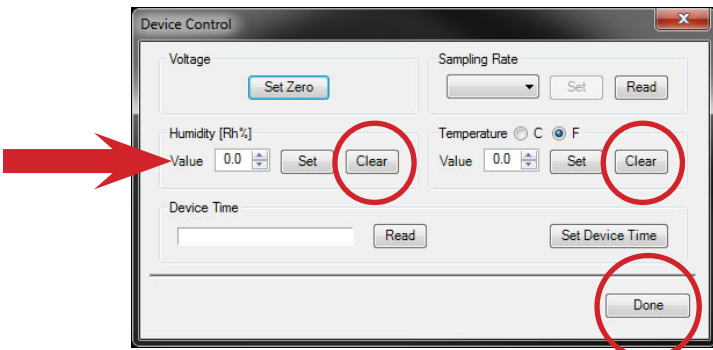

Figure 22: Clearing Humidity and Temperature Bias adjustments
1. From the Edit drop down menu, select Device Control (See Figure 22)
3. Confirm the Temperature (F) Value window is set at 0.0, and click Clear